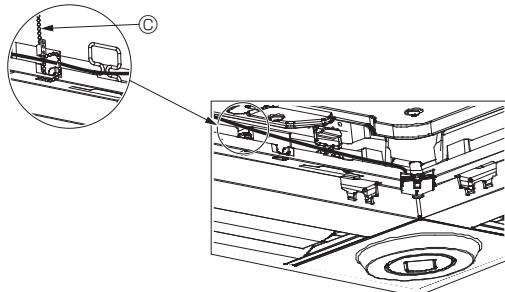

Fig. 5-13
- Secure the i-See sensor and signal receiver wires to the panel with the fastener as shown in the diagram so that there is no slack in the wires, and then cut off the excess end of the fastener. (Fig. 5-13)
- If the position of the i-See sensor was changed from the “○” position (E) to the “□” position (F), change the switch settings. (Refer to page 9.)